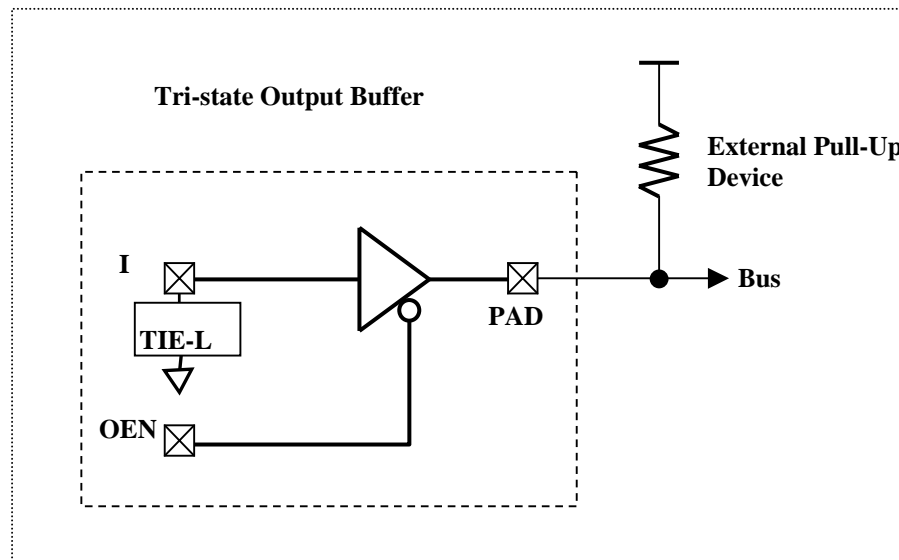

Figure 11.1 The Open Drain Emulation Diagram
TSMC Universal I/O does not provide open drain I/O cells. However, users can emulate open drain behavior with the tri-state output I/O from high-volt-tolerant I/O library. *Figure 11.1* shows that the input port (I) is tied to ground “0” through a tie-low protection cell, and the output signal is connected to enable port (OEN) to transfer a “0” or “Hi-Z” to the PAD. When OEN=“0,” the output is enabled, and the PAD is equal to I as “0”. When OEN=“1”, the output is disabled (Hi-Z), and the PAD is pulled high by the external pull-up device.